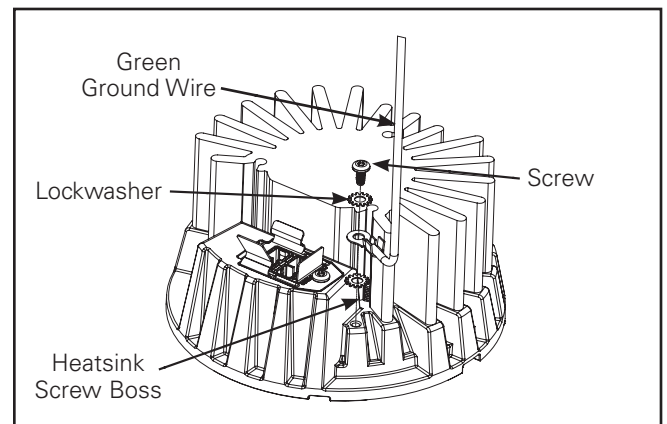

Figure 13.
6. Find the green tether inside cylinder and attach it to the heatsink using the screw and lock washer located in the envelope attached to the tether. (Figure 13.)